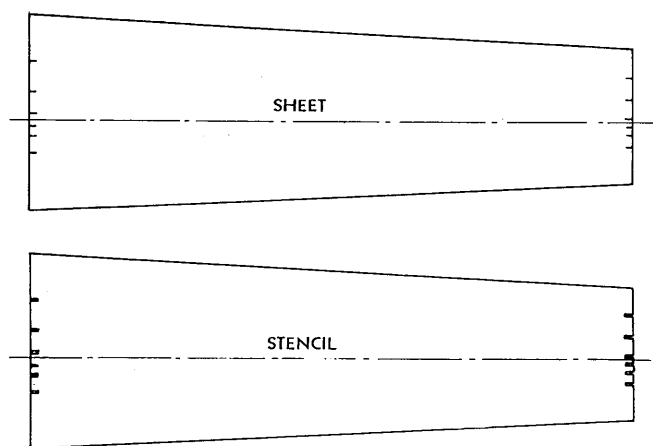

Fig. 5
9. Using the stencil, mark each end of all sheets of the same shape with quick drying varnish. (Fig. 5)